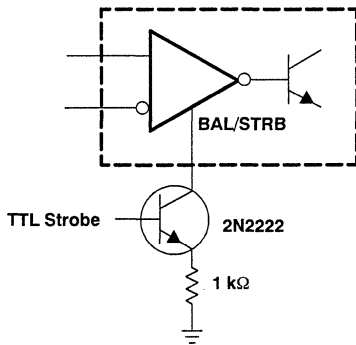

Figure 13. Strobing
6. The strobe should not be shorted to ground; it should be current driven at -3 mA to -5 mA, see Figures 13 and 27.